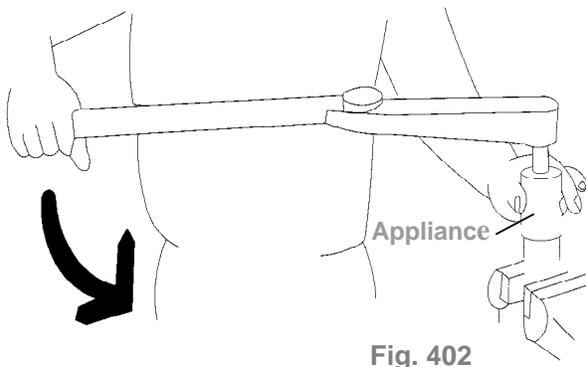

Fig. 402
(4) Pulse Unit Disassembly:
① Fix the pulse unit by a vise. Use the appliance (see Table 58) to loosen the lock nut on the pulse unit, Fig. 402.